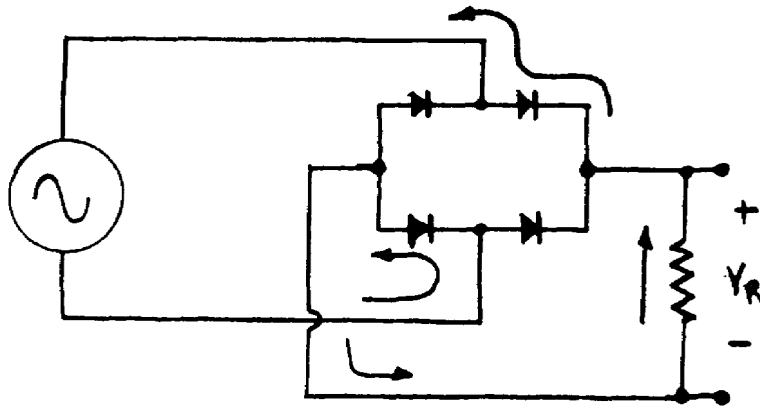
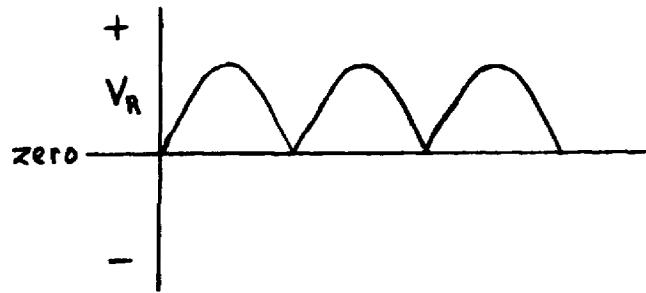

Figure 30. Full-wave rectifier  $t_1$ .
Figure 32. Full-wave rectified voltage.
e. Using four diodes, a circuit can be arranged to cause current to flow in the same direction through the resistor during both the positive and negative half cycles. The circuit is called a full-wave rectifier, for the whole cycle is developed across the resistor in the positive direction. (Study figures 30 and 31.)
f. The output is increased when four diodes are used to provide full wave rectification (fig 32). Note that the current is more continuous than with one diode, but that the current varies from a maximum value to a zero value. It is particularly important to observe that the current flow through the external load resistor is in one direction only (fig 30 and 31). The AC voltage and current have, therefore, been rectified to a unidirectional or DC voltage and current. This circuit arrangement could be used to charge a DC battery, but it does not produce the most output that can be obtained in a generator.